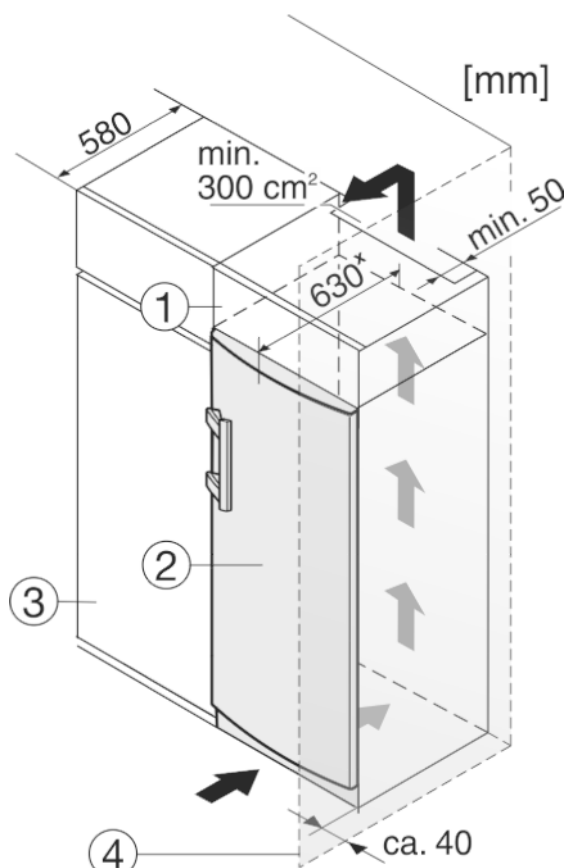

Fig. 13
- (1) Stack cabinet (3) Kitchen cabinet
(2) Appliance (4) Wall
The appliance can be built into kitchen units. A top cupboard Fig. 13 (2) can be added above the appliance in order to bring the appliance Fig. 13 (1) up to the height of the fitted kitchen units.
When installing with kitchen units (max. depth 580 mm), the appliance can be positioned directly next to the kitchen cabinet Fig. 13 (3). The appliance will project by 34 mm* at the sides and 50 mm* in the centre of the appliance in relation to the kitchen cabinet front.
If the appliance is installed with the hinges next to a wall Fig. 13 (4), the distance between appliance and wall has to be at least 40 mm. This corresponds to the projection of the handle when the door is open.